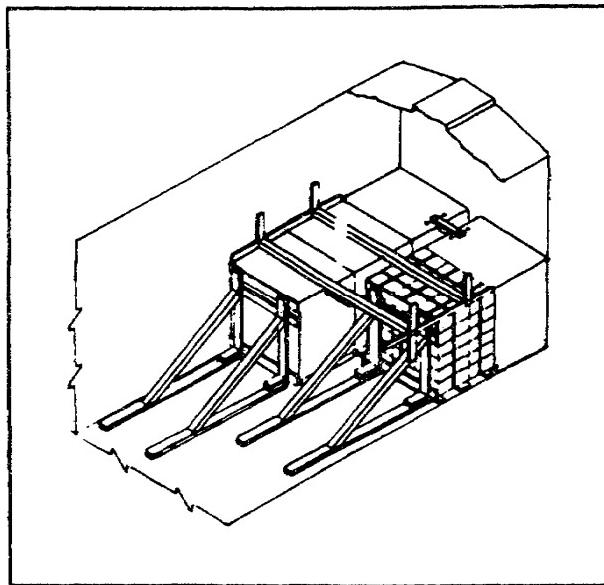

Figure 1-10. DARCOM Drawing 4115 5PA 1002
*Item 11.* Using DARCOM Drawing 4115 5PA 1002 as a reference (figure 1-10), inspect for proper blocking and bracing of the load. DARCOM Drawing 4115 5PA 1002 is used as a guide for blocking and bracing in boxcars of boxed ammunition and ammunition on pallets, unitized with strapping.